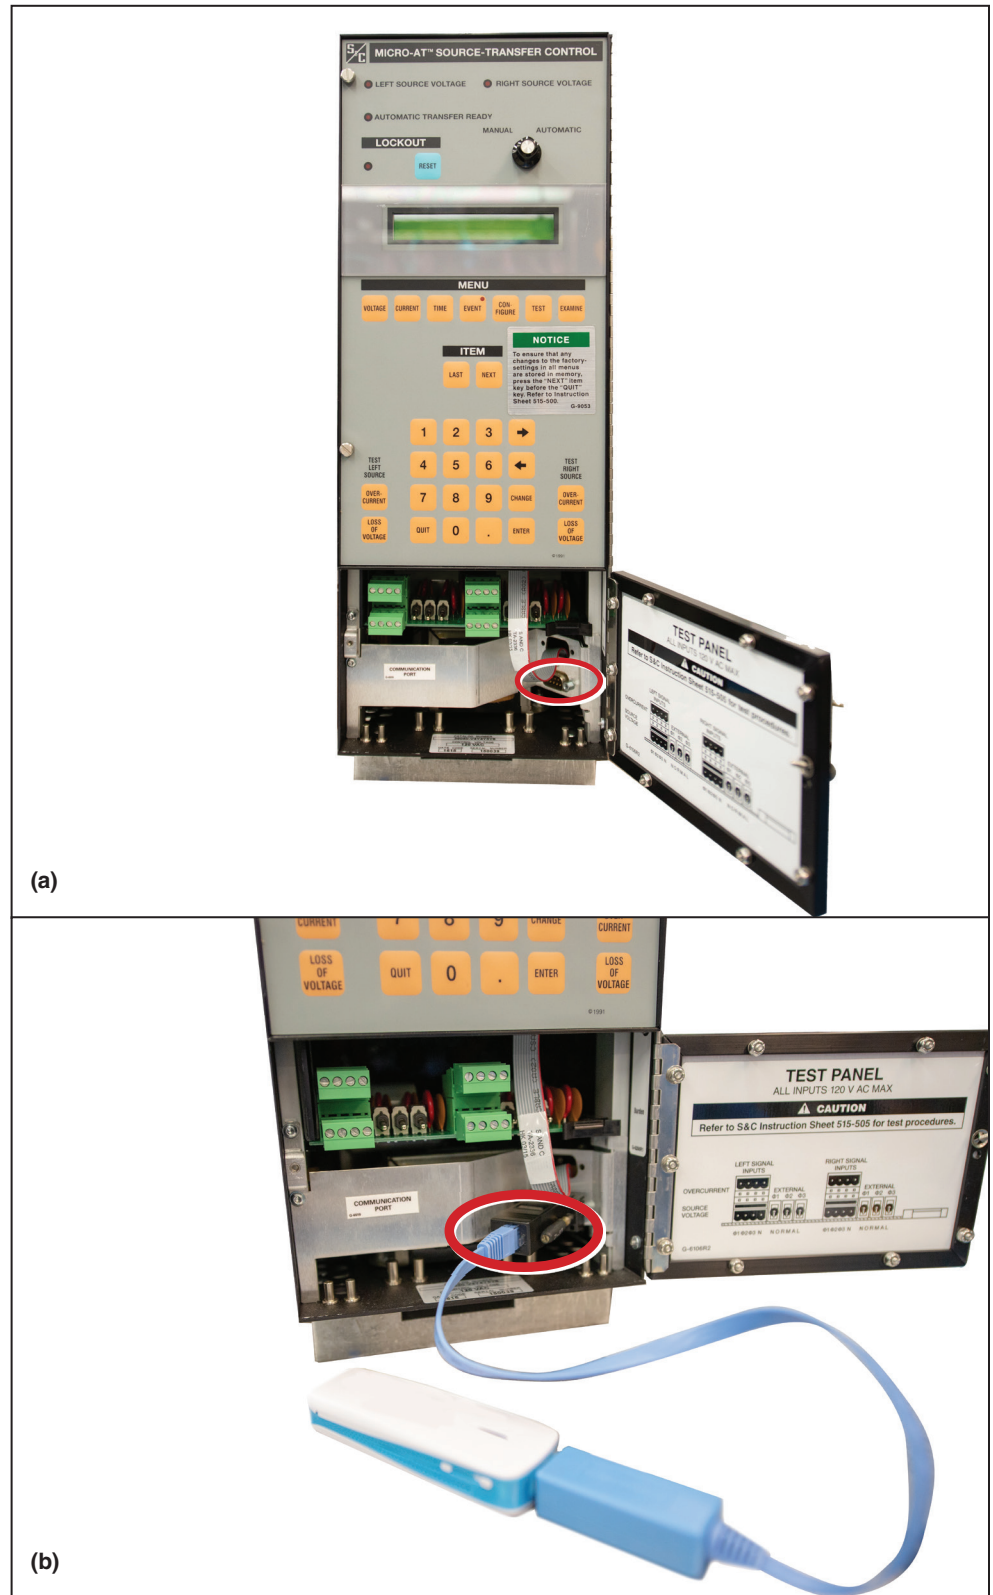

Figure 9. Connecting the RJ45-to-DB9 connector to the serial port of the Micro-AT control.
STEP 3. Connect the DB9 connector end of the RJ45-to-DB9 connector into the serial port of the Micro-AT control communication port. See Figures 9(a) and 9(b).